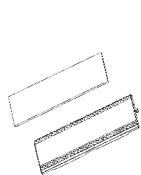

Figure 1
2. Make sure that there's no obstacle and uneven ground in the area within 3 m in front of the base and 0.5 m respectively, on the left and right of it. (See figure 1)
1. Attach the enclosed Mopping Rag to the Mopping Holder. (See Figure 1)